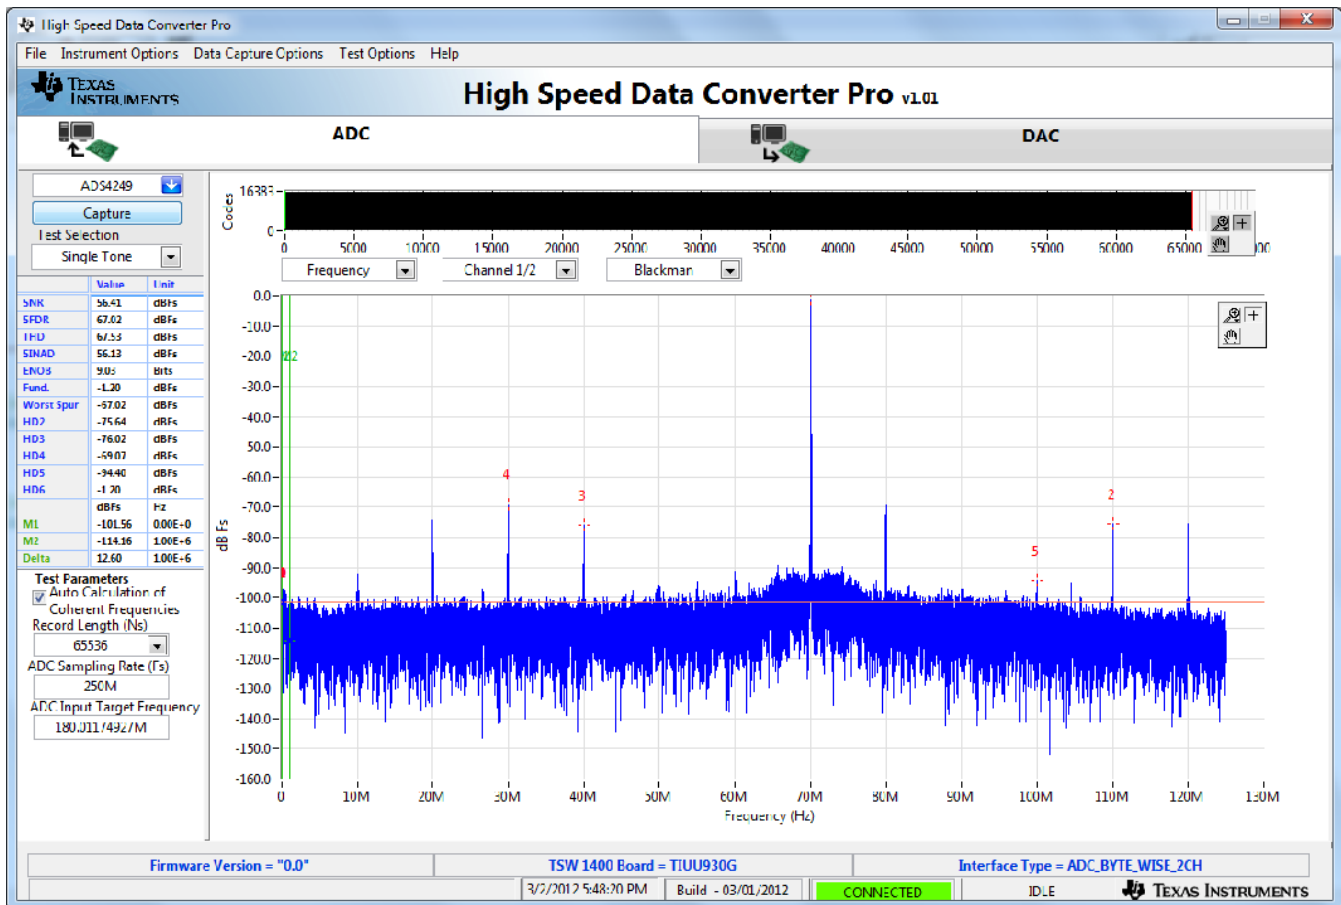

Figure 9. TSW1265 Sample Capture using the TSW1400
7. All boards and software are now set up. Click the *Capture* button. Once the capture is complete, adjust the input source amplitude and LMH6521 gain as needed to achieve approximately -1 dBFS. The LMH6521 gain can be changed on the *LMH6521 Gain* tab of the TSW1265 GUI. An example of a -1 -dBFS plot is shown in Figure 9.